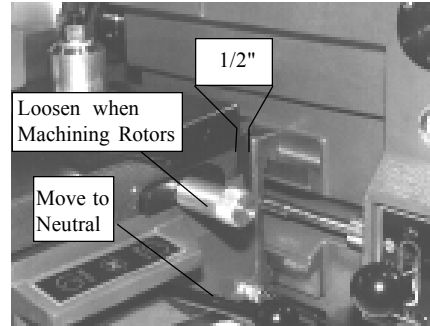

Figure 30
position, alignment is correct. If it does not, then examine the pointers for proper alignment. Push the control lever to the neutral (N) position and turn off the lathe. See Figure 30.
post nut, washer, and the tool bar assembly. Always loosen cross slide adjusting knob when preparing to machine disc brake rotors. See Figure 30.
6. Advance cross slide to within approximately 1/2" of its extreme inward position. See Figure 30.